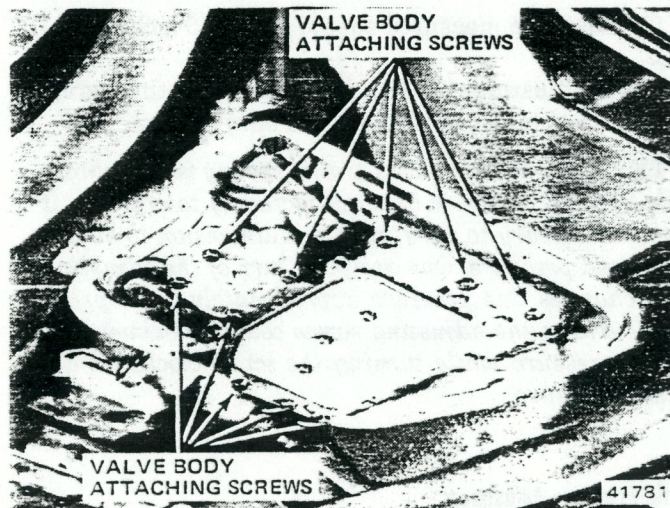

Fig. 2C-23 Valve Body Attaching Screw Location
- (1) Raise vehicle.
- (2) Remove oil pan and drain fluid.
- (3) Loosen clamp bolts and remove throttle and manual valve control levers from valve body shafts.
- (4) Remove neutral switch from case.
- (5) Remove valve body attaching screws (fig. 2C-23).
- (6) Lower valve body, pull valve body forward to disengage park lock rod, and remove valve body.